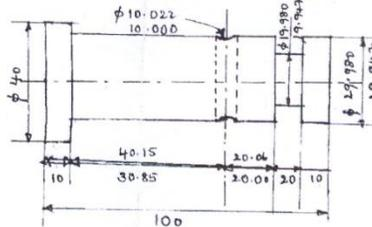

Fig. Q4(b)
- b. The location shaft [Fig.Q4(b)] is to be manufactured in batches of 100.